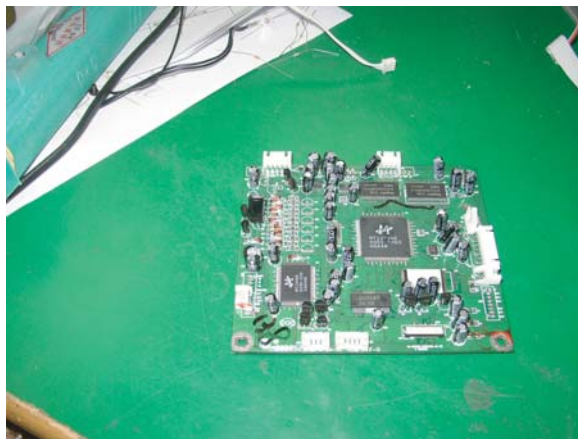

Figure 4-4 Decoder board
2. Unscrew the four fixation screws at position (2) shown as Figure 4-4, then you can separate the Decoder board from the DVD module after you remove all cables connecting it, shown as Figure4-4.